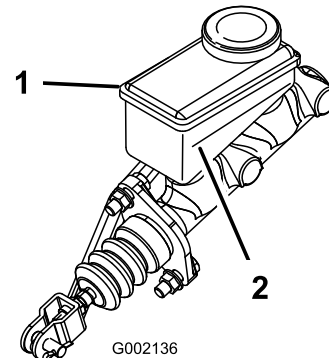

Figure 55
5. Look at the outline of the fluid level at the side of the reservoir (Figure 55).
- B. Add DOT 3 brake fluid to the reservoir until the fluid level is above the Minimum line (Figure 55).